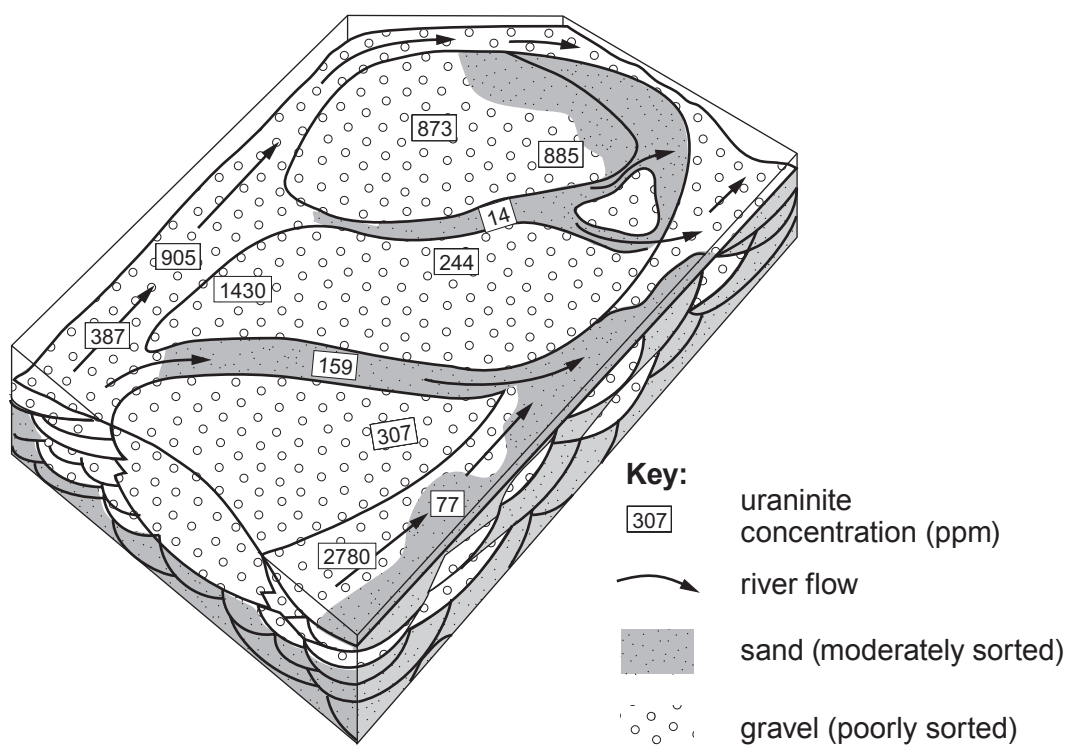

Figure 1a
1. **Figure 1a** shows the depositional environment of a sedimentary ore deposit showing the concentration of uraninite (an ore of uranium). **Table 1a** lists some of the properties of uraninite.
Refer to **Figure 1a** and **Table 1a**
- (a) (i) State the type of sedimentary ore deposit shown in **Figure 1a**. [1]
- (ii) Complete **Table 1b** to show the range of concentration of uraninite (in ppm) in the gravels in **Figure 1a**. [2]
(c) Refer to **Figure 1a**, **Table 1a** and **Figure 1c**.